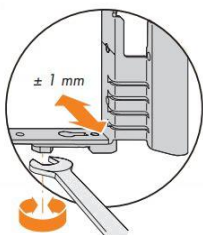

Figure 6
- to adjust in height, remove the rubber cover of the lower corner joint and the height of the frame can be adjusted by turning the adjusting screw (Figure 6).